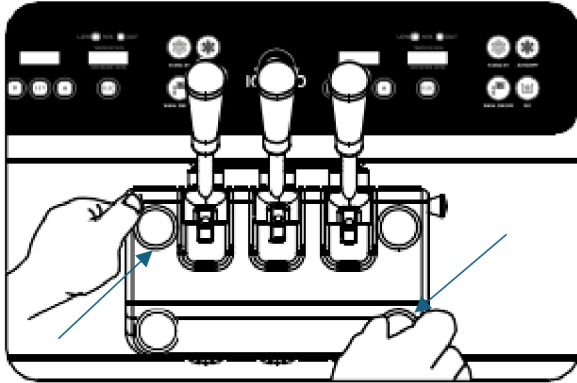

Figure 5-9
12. Fasten the two pairs of freezer door bolts. Do this by hand, tightening them diagonally as shown in Figure 5-9. (Top left and bottom right, then tighten bottom left while tightening the top right). Fasten tightly. If they are loose, the soft serve product can leak.